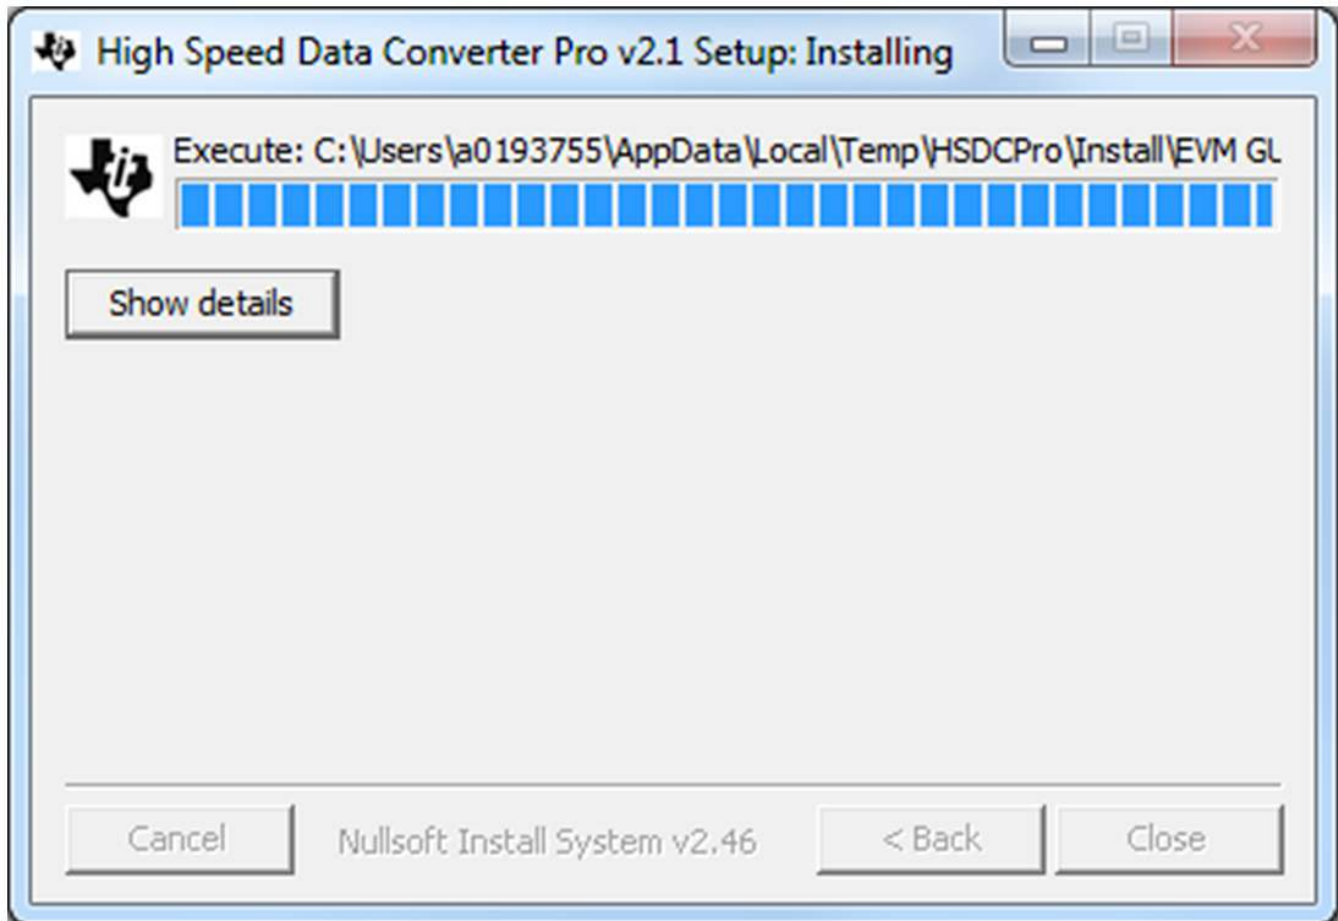

Figure 28. HSDCPro Install (h)
- The window shown in Figure 28 appears briefly to complete the process.